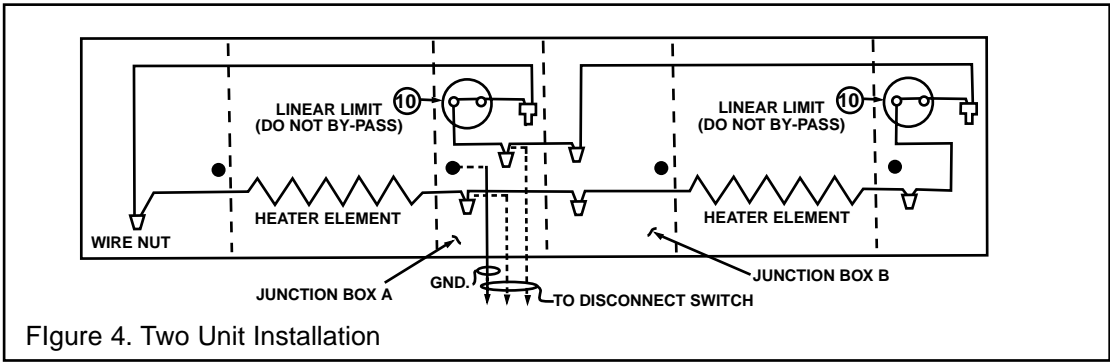

Figure 4. Two Unit Installation
- The DB heater does not have an internal wire way. No more than two units can be wired as shown in Figure 4. If more than two heaters per circuit are desired, an external loop between sets must be provided.
- Bring power supply to either junction box. A or junction box () (see Figure 4), making electrical connections as shown. Connect ground wire to green grounding screw in junction box.